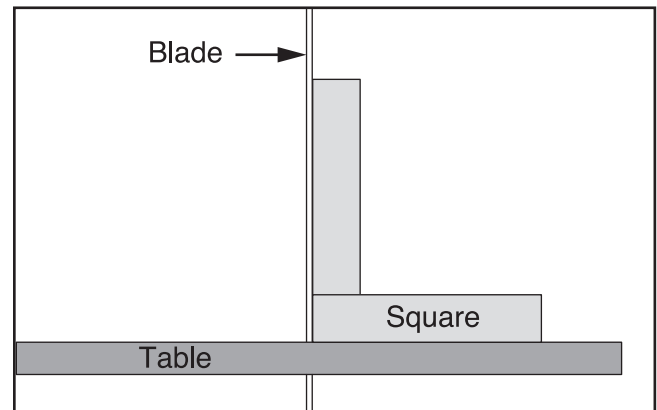

Figure 38. Squaring table to blade.
- Raise the guide post and place a machinist's square on the table next to the side of the blade, as illustrated in **Figure 38**. Adjust the table square with the blade, then secure it with the table tilt lock lever.